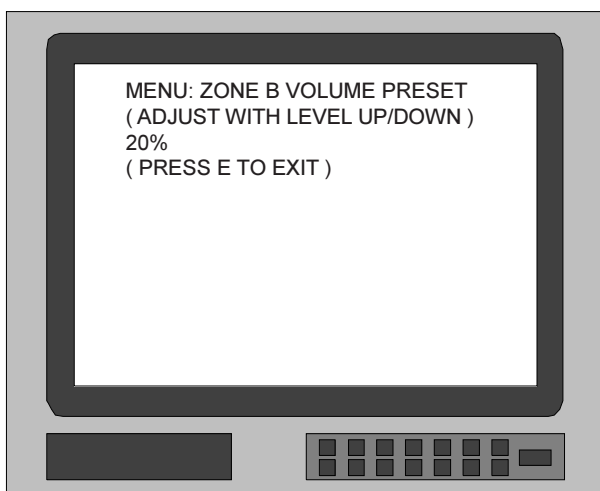

Figure 20
2. Press Number 8 pushbutton on the Remote Control to access ZONE B VOLUME PRESET MENU, which will appear on the screen. Refer to Figure 20.